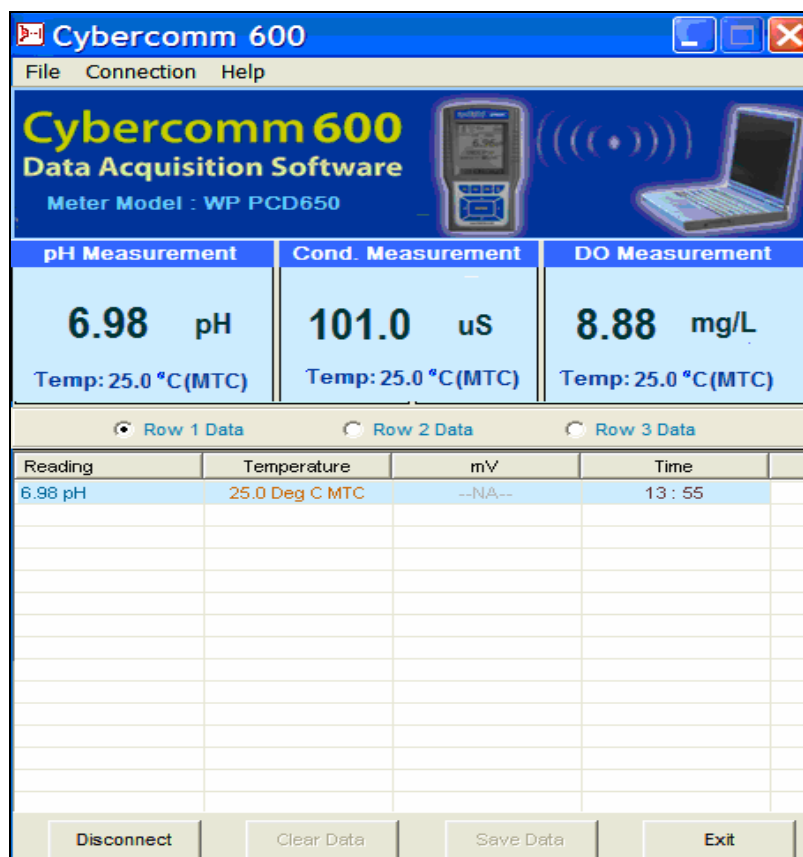

Figure 31 : Transferring a single measurement data (Multi measurement mode)
6. When CyberComm finds the meter, press **Connect** button. The IrDA link is established. The currently displayed measurement reading is transferred to CyberComm. (Figure 31)